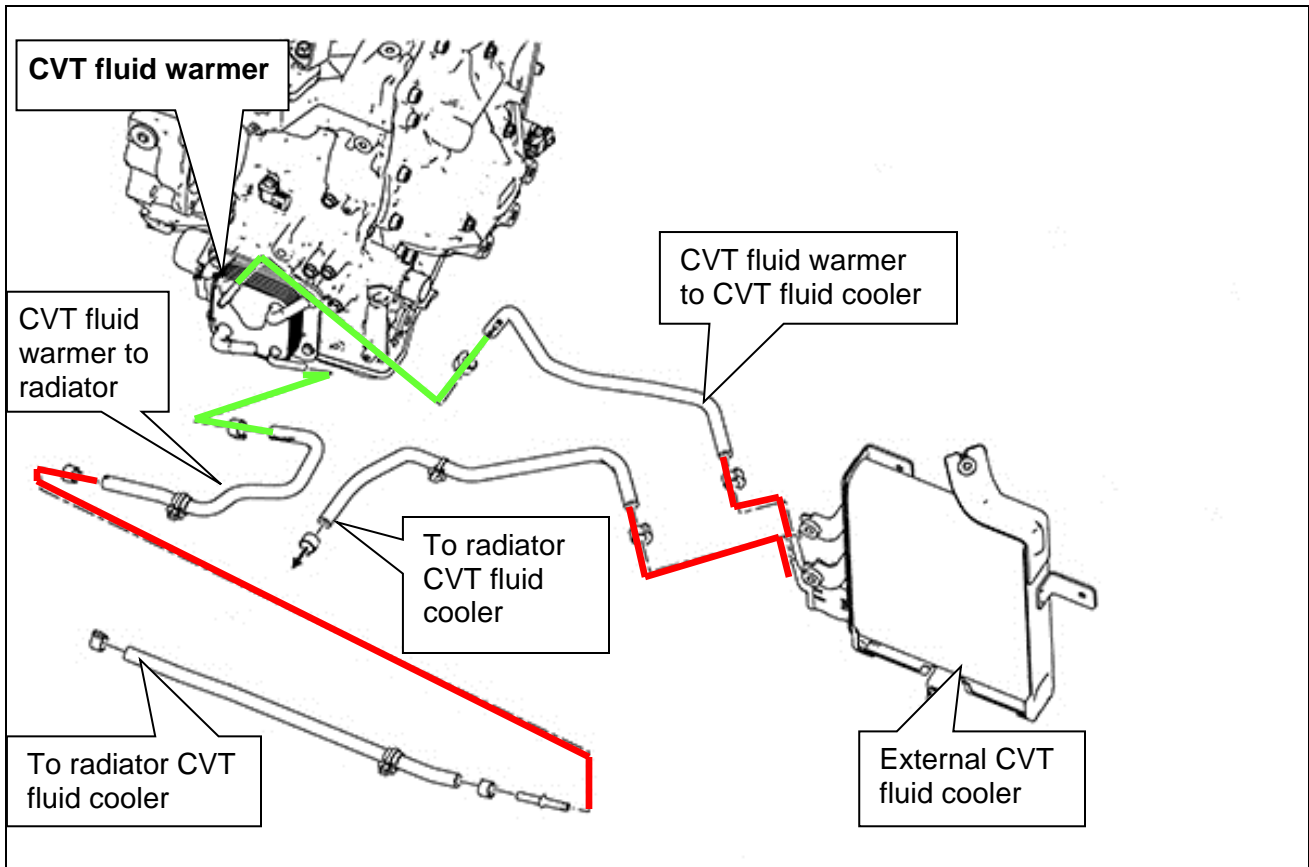

Figure 2E
6. Disconnect the CVT fluid inlet and outlet rubber hoses from the CVT fluid warmer (Figure 2E) and discard the spring clamps.